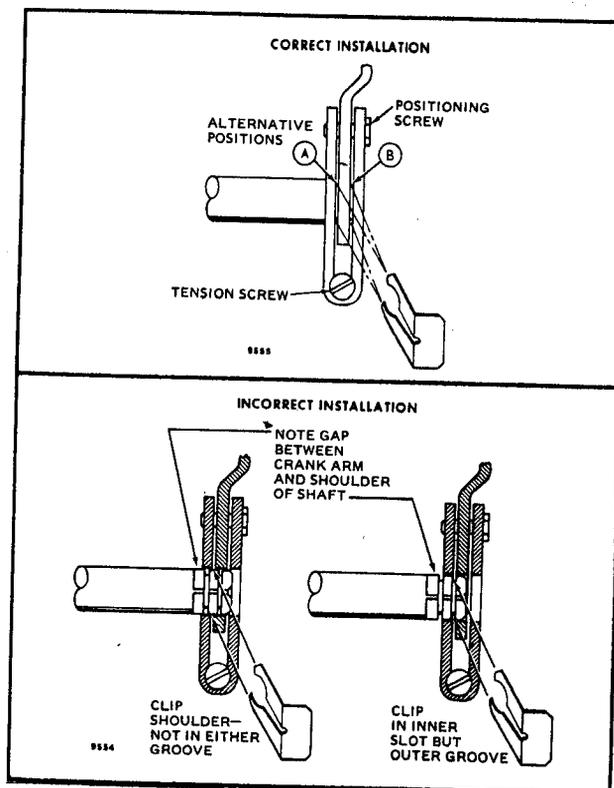
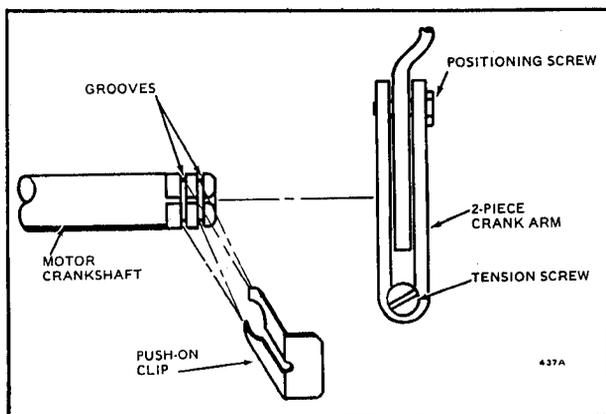

FIG. 11—CLIP IS INSERTED THROUGH SLOT IN MOTOR CRANK ARM.
FIG. 12—SLIDE MOTOR CRANK ARM ON MOTOR SHAFT AS SHOWN. DO NOT INSTALL CLIP UNTIL ADJUSTMENTS ARE COMPLETED.
Align the shaft holes in the motor crank arm and crank hub. Place the motor crank arm assembly on the motor shaft. Tighten the crank arm screws finger tight because further adjustments will be required. Do not install clip until adjustments are completed (see Fig. 12).
- b. Insert the clip at either A or B between the crank arm and crank hub (see Fig. 11). The motor crank arm positioning screw must be loose to provide clearance.
Align the motor shaft holes in the motor crank arm and crank hub. Place the crank arm assembly on the motor shaft (Fig. 12). Tighten the motor crank arm screws finger tight, as further adjustments will be required. Do not install clip until adjustments are complete. See Fig. 11.
- Insert the clip at either A or B between the crank arm and crank hub (see Fig. 11). The positioning screw must be loose to provide clearance.